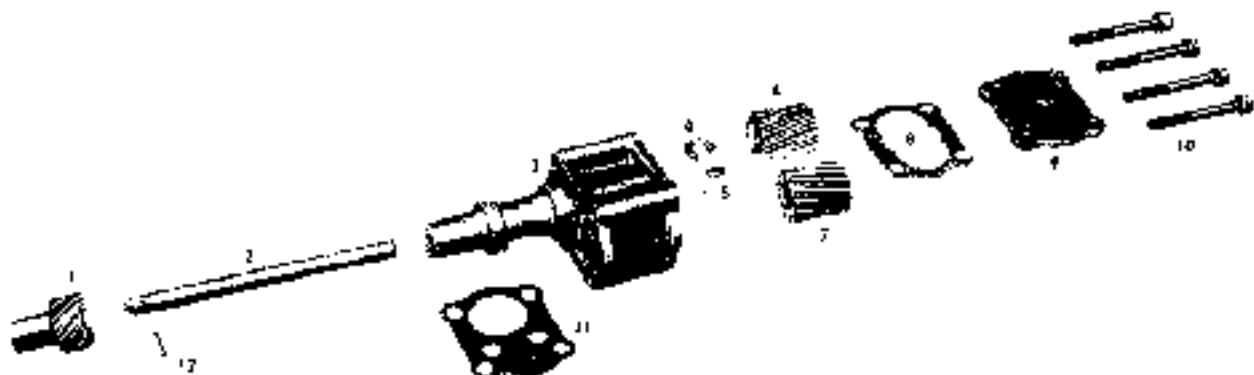

FIG. 376
With the horseshoe-shaped thrust washer (4, Fig. 376) and the Woodruff key (5) in place, press the oil pump drive gear (6) on the drive shaft (2). After inserting the drive shaft in the oil pump body (3), press the drive shaft gear (11) on the shaft, being sure to align the holes in the gear and the shaft. Then lock the gear on the shaft with a new $3/16"$ (4.76 mm.) pin (12) and open the pin securely in position.